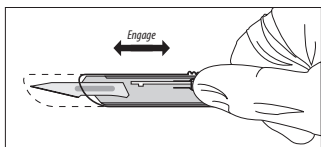

Fig. 15
- Engage safety and/or locking feature of scalpel (where provided) once cutaneous puncture site is enlarged, to reduce risk of cutting the guidewire (refer to Fig. 15).